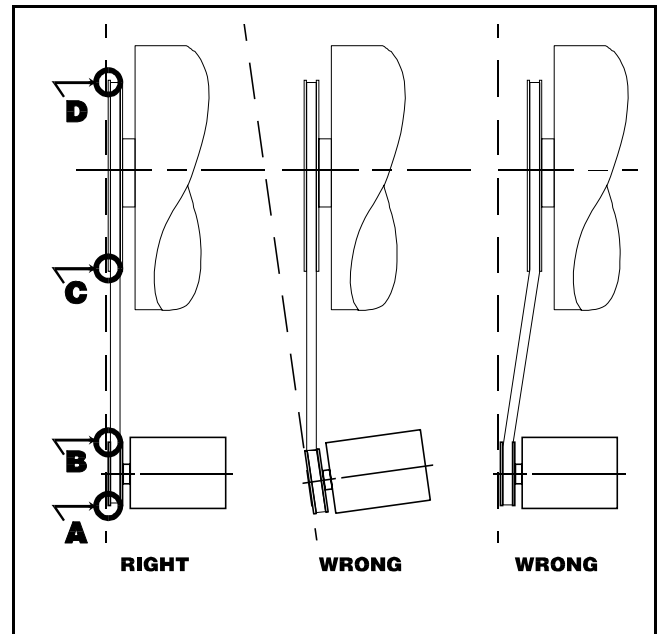

FIGURE 5 (MSSM0706BE)
After replacing the drive train components, check the pulley alignment according to FIGURE 5.
1. Stretch a string from the wash clutch on the jackshaft to the rear pulley on E2/Drain (large) motor. Position the string similar to FIGURE 5, but with the string touching the pulley faces *on the motor side*.
B See FIGURE 5 during the following procedures:
1. Stretch a string from the motor pulley to the main drive pulley as shown on FIGURE 5.
See FIGURE 5 during the following procedures:
1. Stretch a string from the Extract Clutch on E2/Drain (large) motor to the pulley on the jackshaft as shown on FIGURE 5.